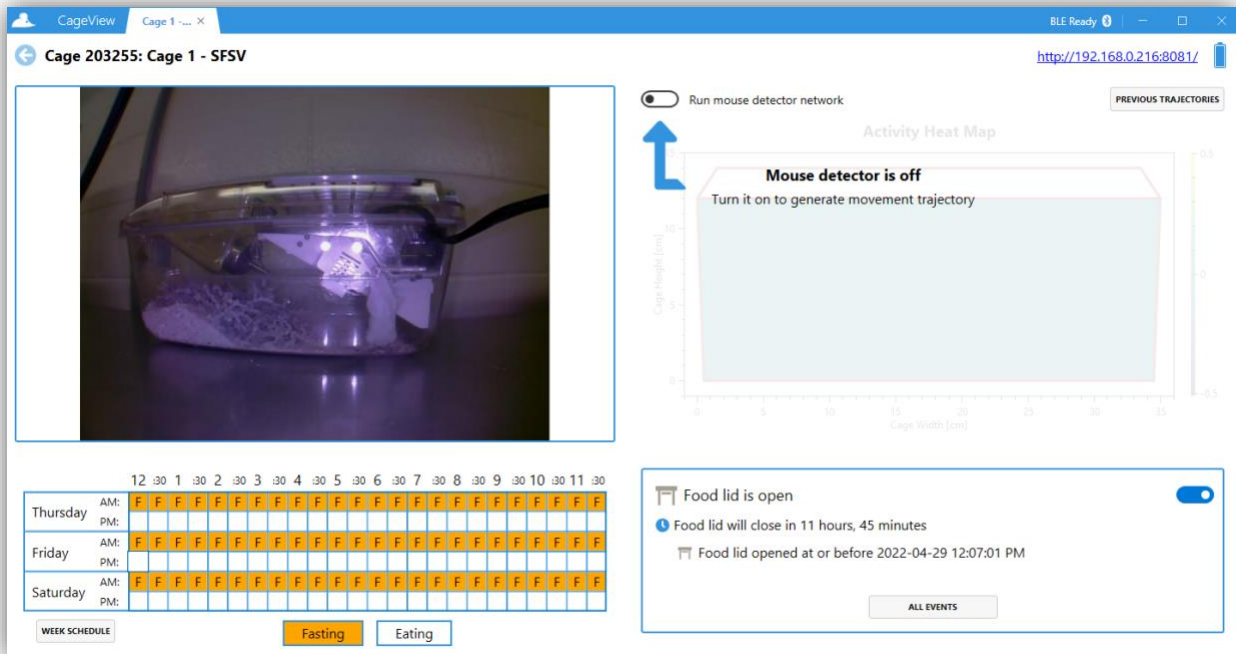

Figure 18. CageView with the diet schedule set
5.2.3. The focused schedule after some edits is shown in **Figure 18**. Then, the next upcoming event for the cage is updated accordingly at the bottom right (e.g., "Food lid will close in 11 hours, 45 minutes"). Click the "**Week Schedule**" button at the bottom of the focused diet schedule to open the week schedule dialog.